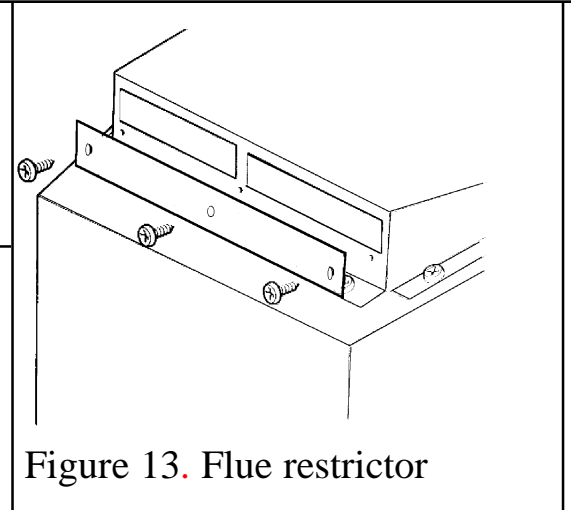

Figure 13. Flue restrictor
9. The restrictor is packed loose with the appliance and is fixed with three screws (See figure 13).